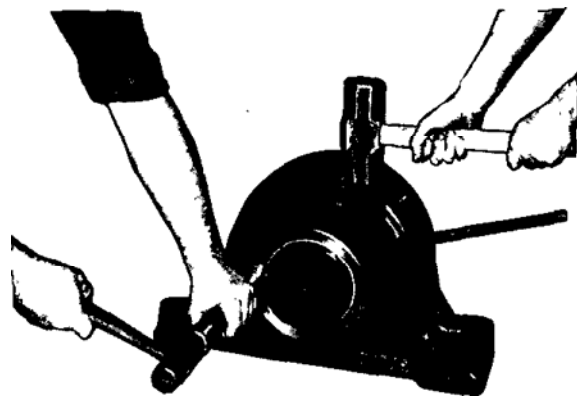

Figure 4 – This is an alternate method to those shown in Figures 1, 2 and 3 in that a spanner wrench is used in place of the barring rod. ▲▲
3. Tighten (turn clockwise) nut 57 at open end of housing. Use sledge and brass bar as in Fig. 4 to break the cones loose on the adapter, thus allowing the adapter to loosen on shaft.